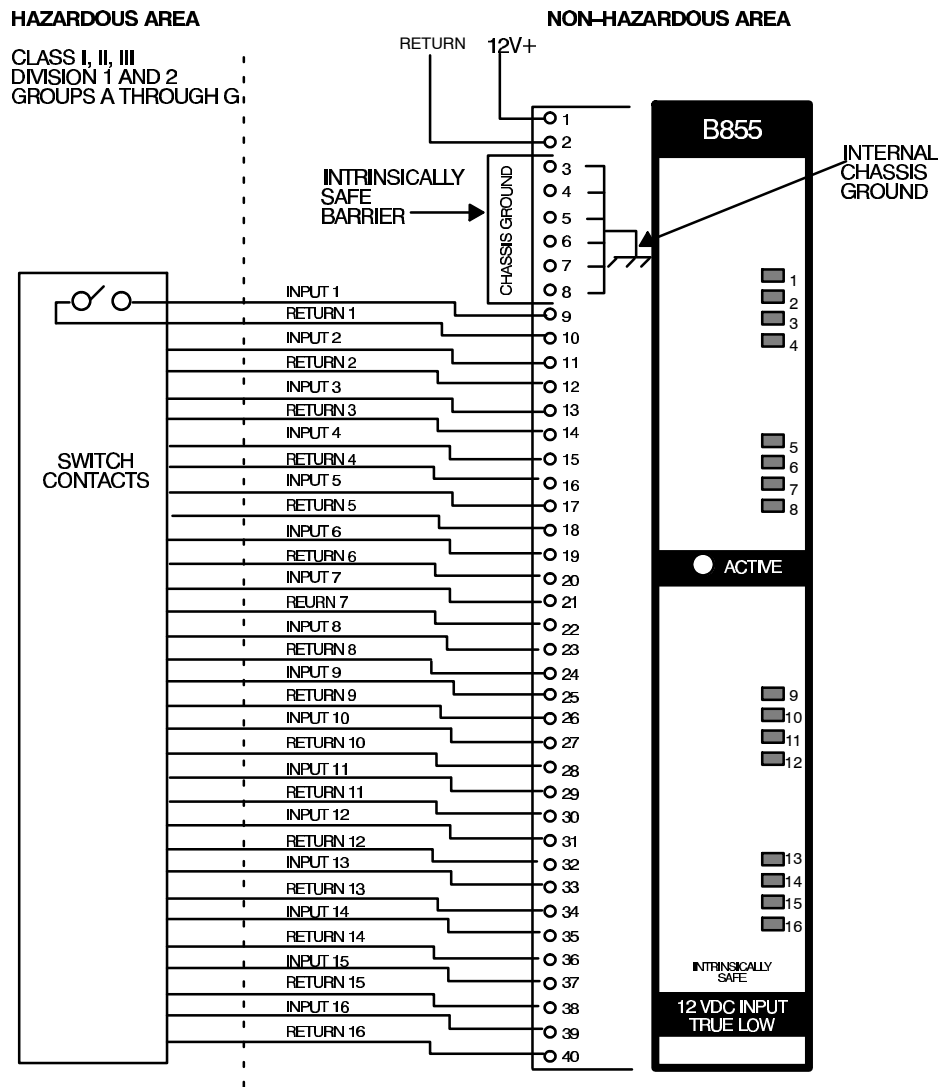

Figure 66 B855-016 Hazardous Area and Safe Area Wiring
- Step 5** Referring to Figure 66, connect field side wiring to proper pins on the field connector. You must wire the hazardous area connections, pins 9 ... 40, separately from the safe area connections. Wire the dc source to the safe area connections, pins 1 and 2.